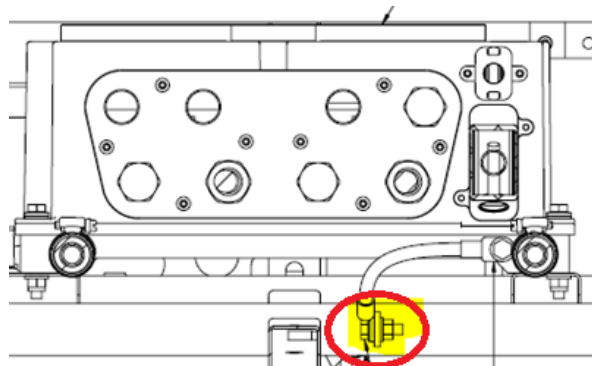

Figure 14: Inverter Upper Grounding Connection
48. Ensure the lower 5/16 bolts securing the grounding strap at each inverter and circled below in Figure 14 are torqued to 15 ft-lbs.